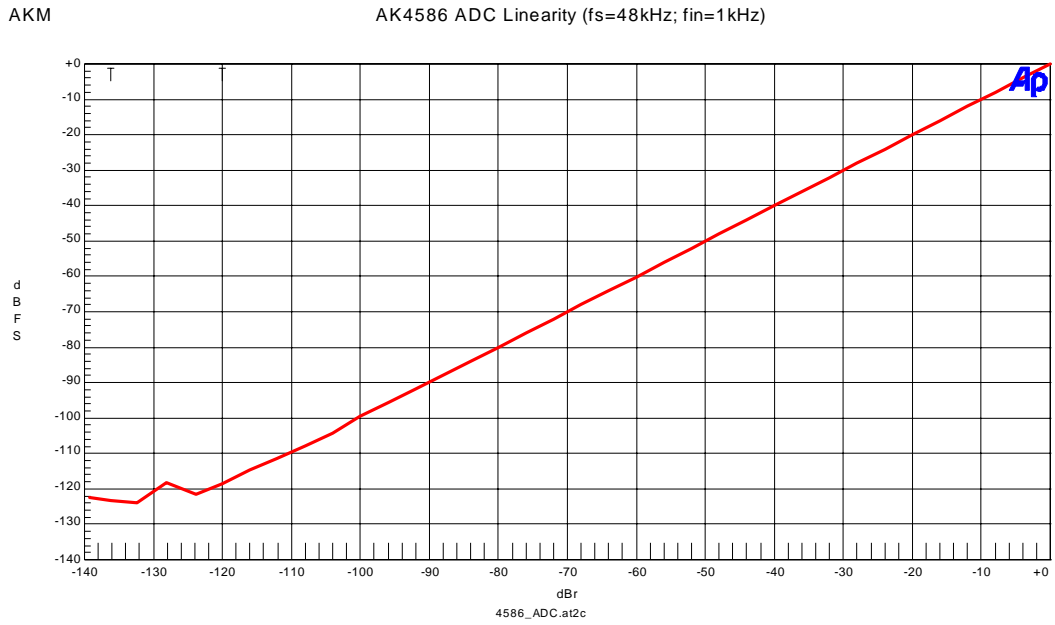

Figure 1-6. Linearity (fin=1kHz)
- Figure 1-6. Linearity (fin=1kHz)